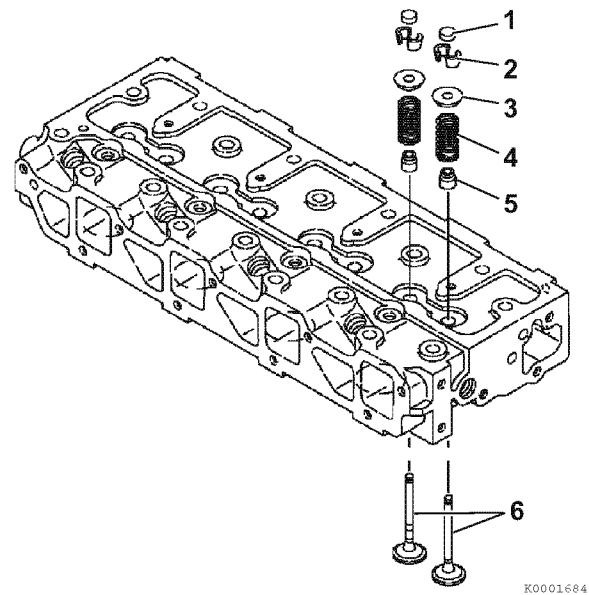

Figure 6-12
2. Remove the valve cap (Figure 6-12, (1)) and keep with the valve it was installed on.
4. Remove the valve keepers (Figure 6-12, (2)).
6. Remove the spring retainer (Figure 6-12, (3)) and valve spring (Figure 6-12, (4)).
8. Turn the cylinder head so the exhaust port side faces down. Remove the intake and exhaust valves (**Figure 6-12, (6)**) from the cylinder head.
9. Remove the valve stem seals (**Figure 6-12, (5)**).